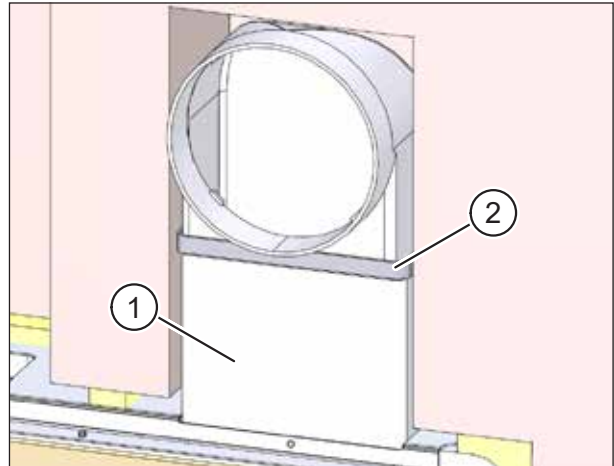

Fig. 27: Fixing ductwork connections with sealing tape
- ▶ Insert a fitting, e.g. the flat ductwork connector M-WRG-FK-V, part no. 5591 (item 1 in Fig. 27), into the opening in the wall box.
- ▶ Insert the first section of the flat ductwork into the fitting, e.g. the flat ductwork connector M-WRG-FK-V, part no. 5591, on the wall box and seal the join with sealing tape (item 2 in Fig. 27).